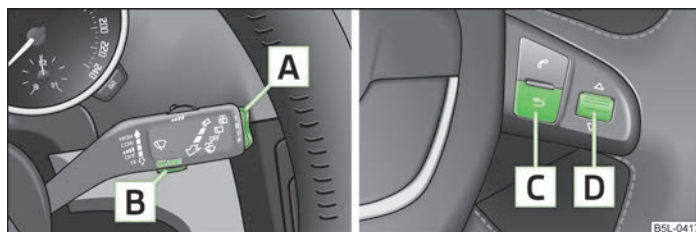

Fig. 7 Information display: Control elements on the windscreen wiper lever/ control elements on the multifunction steering wheel
- Activate the **Main menu** by pressing the rocker switch **A** » Fig. 7 for longer.
- Activate the **Main menu** by pressing and holding the button **C** » Fig. 7 for a short while.